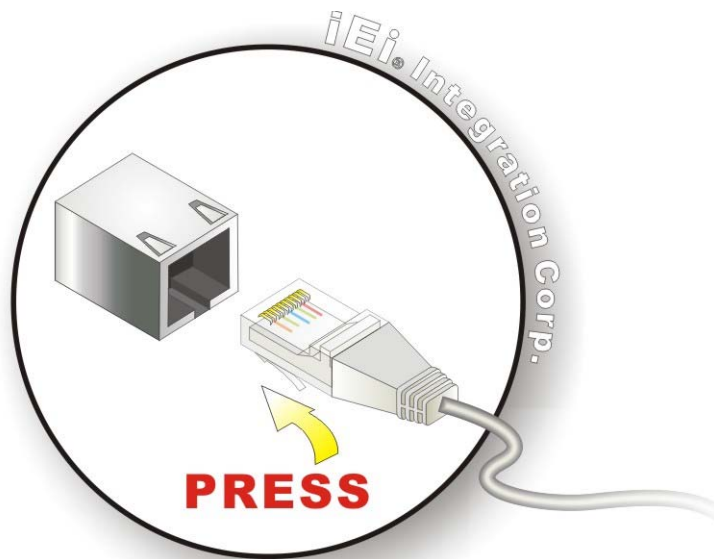

Figure 4-13: LAN Connection
Step 2: **Align the connectors.** Align the RJ-45 connector on the LAN cable with one of the RJ-45 connectors on the KINO-ABT-i2. See **Figure 4-13**.